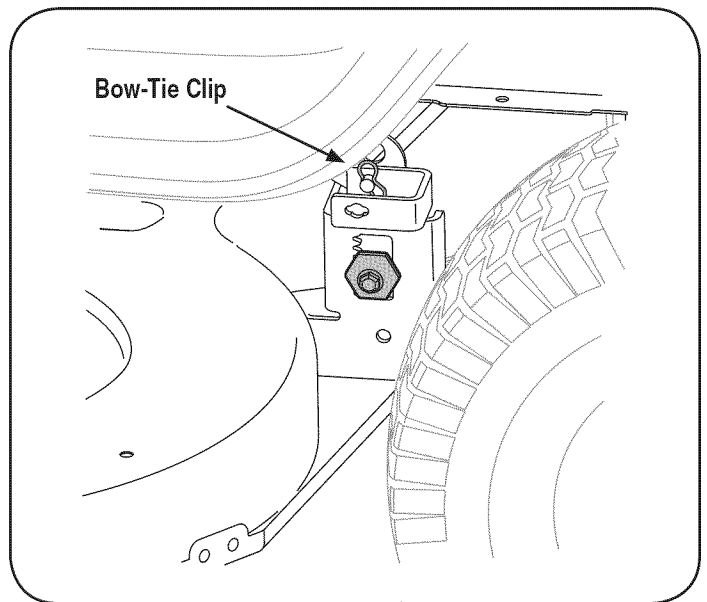

Figure 20
5. Looking at the cutting deck from the left side of the tractor, locate the bow-tie pin that secures the deck support rod on the rear left side of the deck. See Fig. 20. Remove the bow-tie pin that secures the deck support rod, and carefully remove the deck support from the deck lift arm.